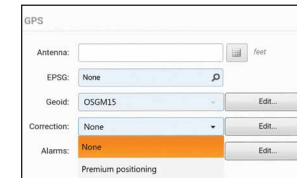

Figure 1a.
1. Ensure the locator has access to GNSS satellites (see figure 1a and 1b).